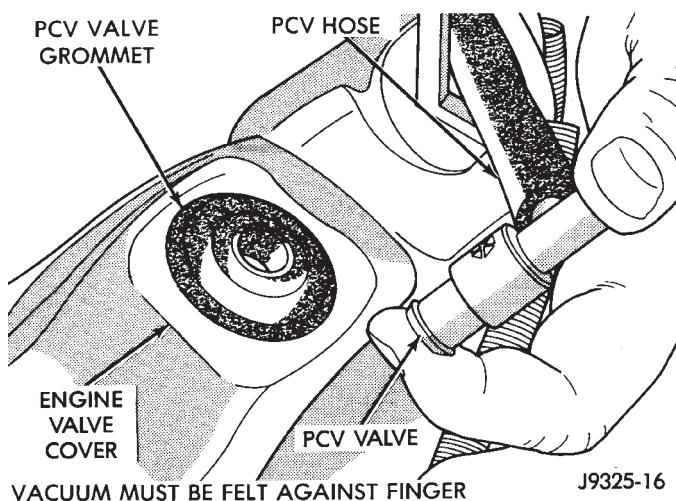

Fig. 15 Check Vacuum at PCV Valve—Typical
(1) With engine idling, remove the PCV valve from cylinder head (valve) cover. If the valve is not plugged, a hissing noise will be heard as air passes through the valve. Also, a strong vacuum should be felt at the valve inlet (Fig. 15).